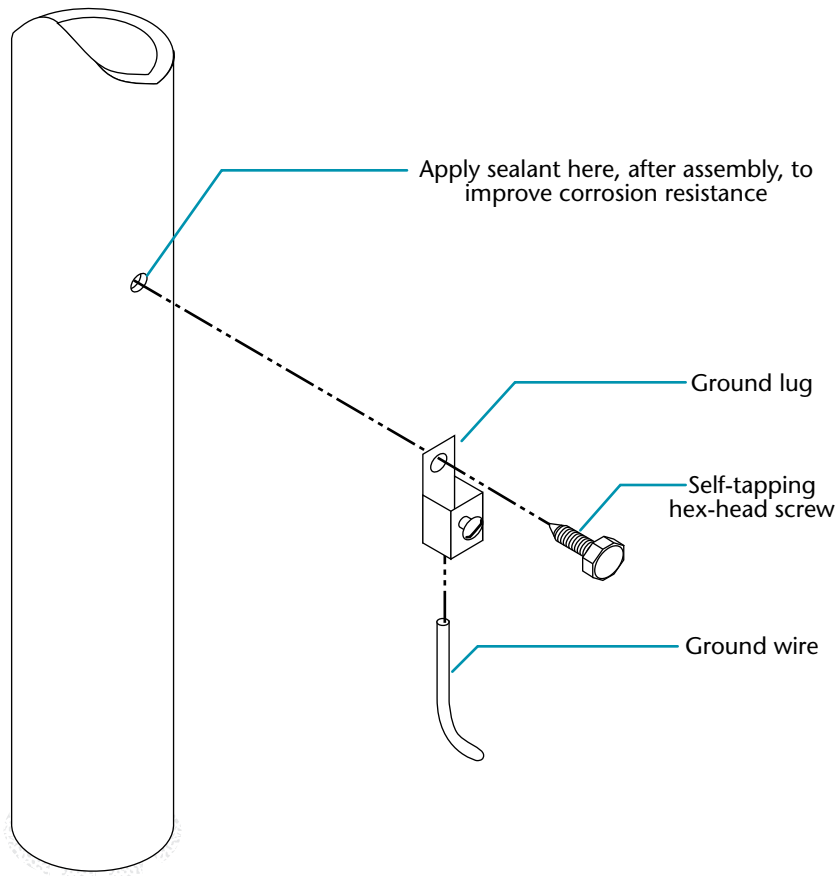

Figure 4-26. Ground wire installation diagram for a pole mount
1. Insert one end of the ground wire through the ground lug (see figure 4-26). If the ground wire is to be routed under ground, use a copper ground wire.
3. Install the ground lug onto the pole mount using the self-tapping hex-head screw as shown in figure 4-26).